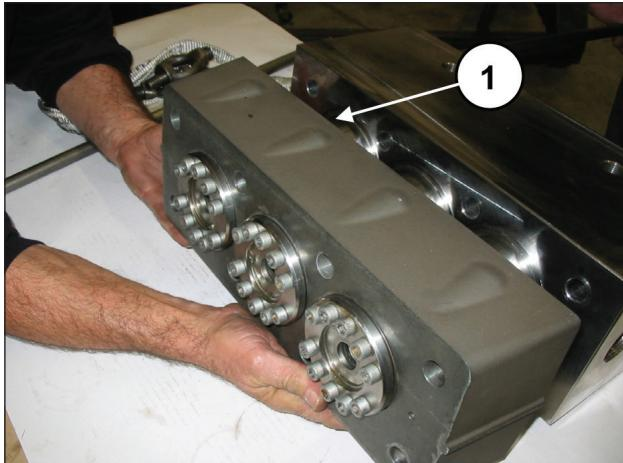

Fig. 100
Remove the liner spacer from the liner units (pos. ①, Fig. 100).